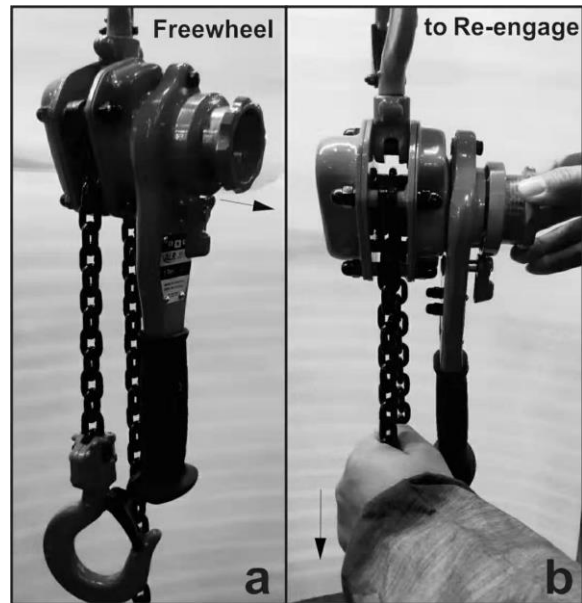

Figure 6
2. Place the selector switch on the handle in the center neutral position, and pull out on the handwheel (Figure 6). This will allow "free-wheel" mode. Pull the load chain by hand to position the bottom hook.